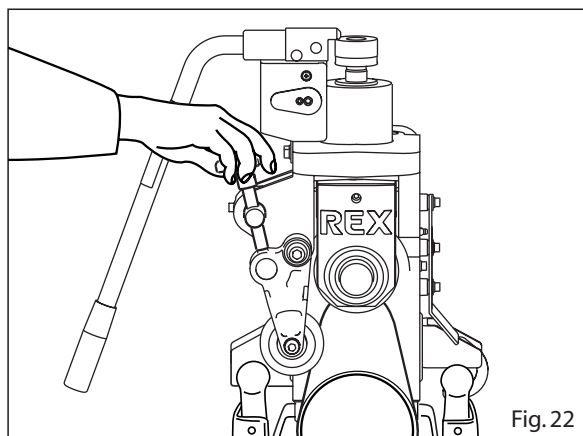

Fig. 22
- 2) Turn the push knob on the guide roller to lightly engage the guide roller with the pipe. In this position, tighten the knob a further half-turn to push the guide roller against the pipe. (Fig. 22)